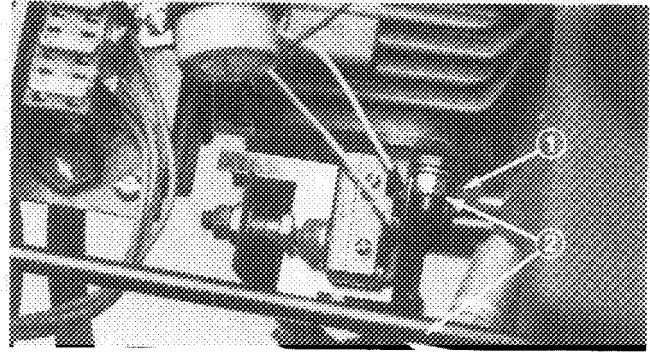

Figure 43
4. Loosen two locknut securing pump plate so plate is free to move (Fig. 43).
5. Start engine and rotate pump plate (Fig. 43) in either direction until wheel ceases rotation.
6. Stop engine and tighten locknuts to secure pump plate (Fig. 43).